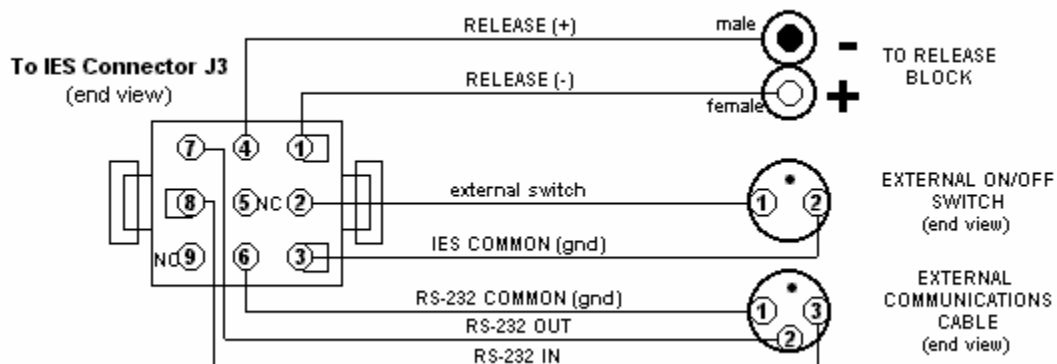

Figure 2-2 IES Model 6.2 -- Through-the-Glass Communications and Control Cable
- **When the glass housing is sealed**, connect RS-232 cable (p/n 51-06) to the external communications connector shown below. RESET the IES by disconnecting, and then reconnecting, the external ON/OFF plug and follow the prompts to the IES Main Menu. A diagram of the through-the-glass control cable is shown in Figure 2-2.